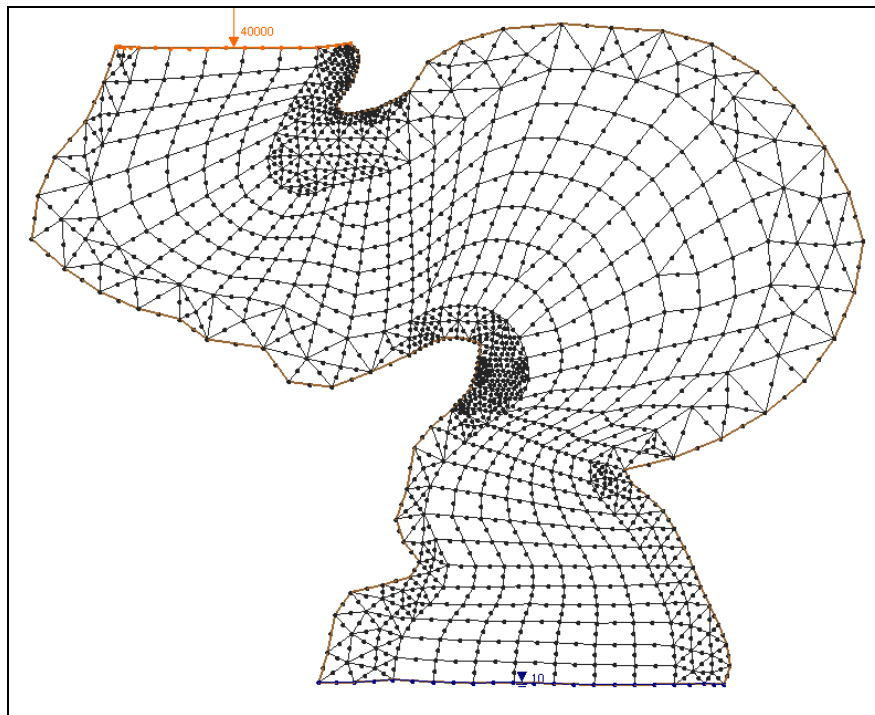

Figure 1. The mesh contained in *stmary.sms*.
2. Open the file *stmary.sms* supplied in the Data Files Folder. If you still have geometry open from a previous tutorial, you will be asked if you want to delete existing data. If this happens, click the *Yes* button. The display will refresh with the mesh as shown in Figure 1.